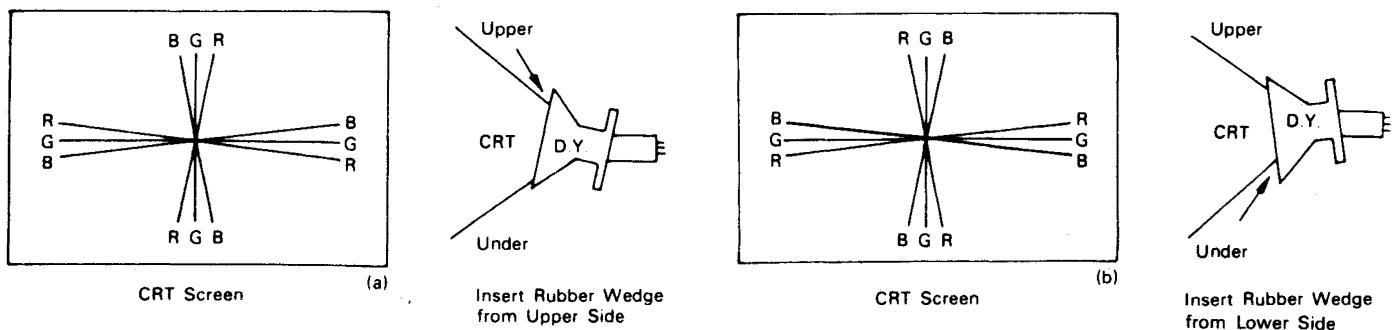

FIGURE 10
### PRECISE ADJUSTMENT OF DYNAMIC CONVERGENCE (See Fig. 10 and 11)
2. Insert the temporary wedge and fix Deflection Yoke so as to obtain the best circumference convergence (See Fig. 10 and 11).
1) Tilting the angle of the yoke up and down adjusts the crossover of both vertical and horizontal red and blue lines. See Fig. 10 (a) and (b).